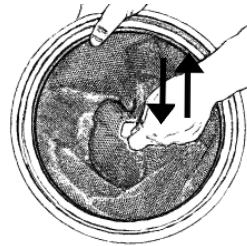

Fig. 23
2. Do not remove the filter from the container. Instead, give the filter a light shaking inside the container to loosen dust from the filter allowing it to fall into the container. This is done by grasping the strap on the filter and quickly move the filter up and down as shown in Fig. 23.